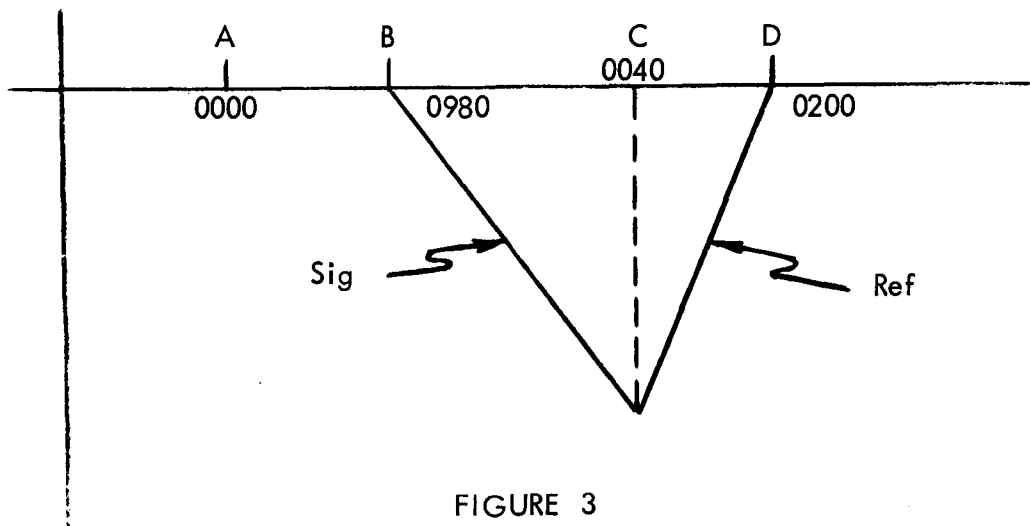

FIGURE 3
An example of how the A/D operates in scale 1 is outlined in Figure 3.
- d. When the display passes through all 0's point (refer to A on Figure 3), the 0's signal clocks U4 (1). This enables U2 (1) to be clocked. U2 (1) is clocked when signal integration is required, (Point B) Figure 3, 0890 for scale No. 1.
- e. The output E7 and E4 of A4 both go Low. This effectively disconnects the  $\pm$  ref signal on A5 by saturating Q2 and Q3 of A5 and applies the analog input signal to the integrator U3 by cutting Q1 off. Integrator U3 proceeds to integrate the signal up until the down (-) integration signal appears at A4 E11. For Scale 1, this number is 0040 point C. When this occurs, A4 (E7, E4) return to a "1" and the negative reference only is allowed to be integrated. Since the negative reference is constant, the rate of integration remains the same irrespective of input signal. The integrator continues to integrate the negative reference until 0 crossover is reached at which time U4 (5) on the A4 card receives a pulse which performs two (2) functions. It inhibits the clock pulse from passing through A4 U3 (13) and places A4 (E) at "1" shutting off the  $\pm 12$ ,  $\pm 6$ V power supply. The display now shows a number proportioned to the input voltage for the scale selected. The unit remains inactive until another reset pulse occurs about 2 seconds later. The conversion time takes about 40-50 ms and since the  $\pm 12$ ,  $\pm 6$  volts supplies are off for most of the time, an apparent power saving is obviously made.